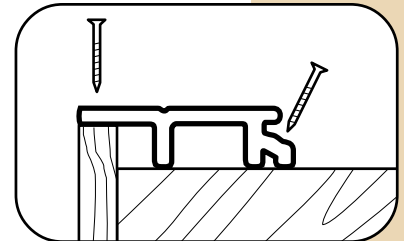

Fig. 21
- Cut the "tongue"-side leg off the first stair tread plank. Place the first stair tread edge (the side from which the "tongue"-side leg has been cut) on top of the Fascia Board and fasten into place, using #8, 2-1/2" stainless steel or galvanized deck screws through the stair plank and into the Fascia Board (line up one screw with each stair stringer) (Fig. 21)